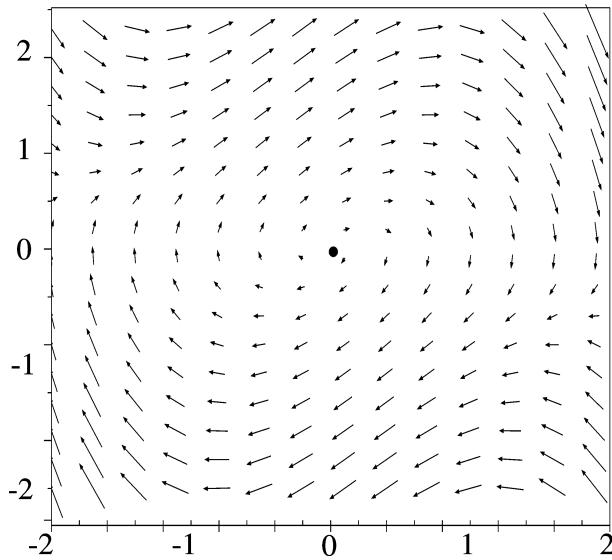

Figure 3.7: Vector field associated with the Van der Pol system
- 3) The vector field associated with this system is represented on Figure 3.7 in the state space (x_1, x_2) . We initialize the system in $\mathbf{x}_0 = (0.1, 0)$. Draw on the figure the path $\mathbf{x}(t)$ of the system on the state space. Give the form of $y(t)$.